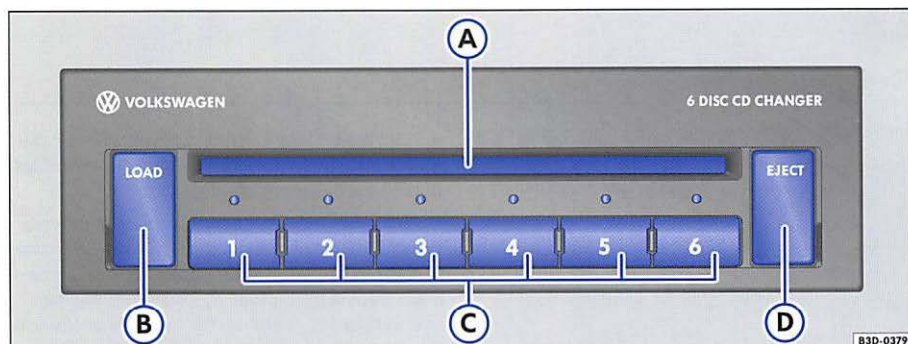

Fig. 27 External CD changer
- Press the **LOAD** button ⇒ fig. 27 (B).
- Press one of the slot buttons (C) to select the slot. The LED above the selected button will blink slowly.
- Insert the CD into the slot (A) until the LED starts to blink quickly.